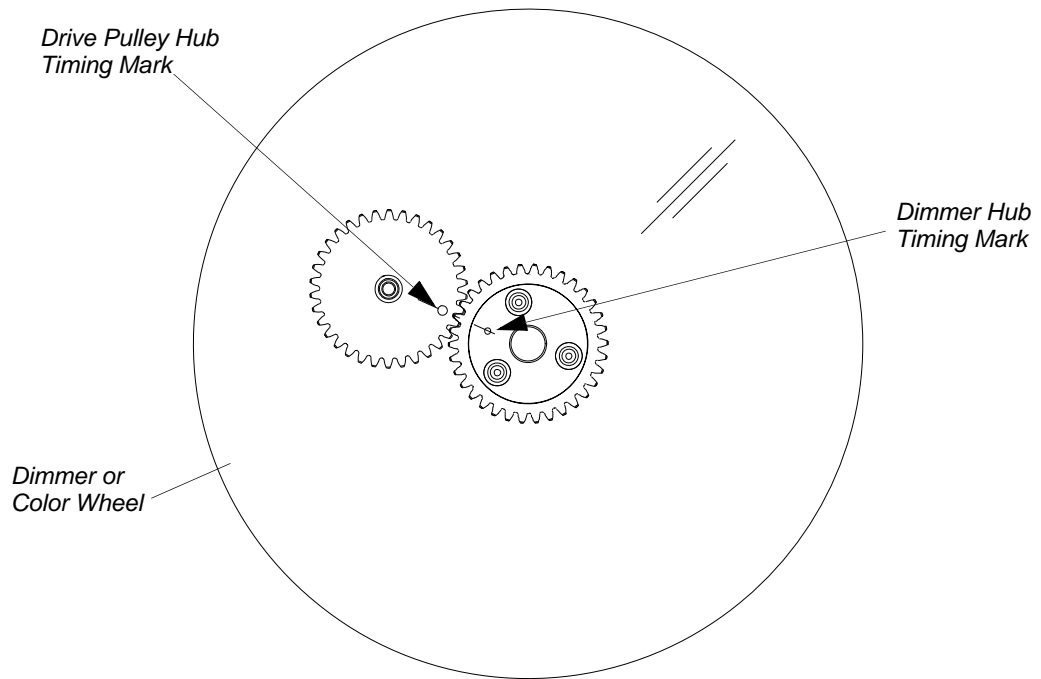

Figure 2-32: Wheel and Drive Hub Timing Marks
- Step 2. Align timing mark on dimmer wheel with timing mark on drive pulley hub on motor shaft as shown in Figure 2-32.
- Step 3. Align the timing mark on the magenta wheel with the timing mark on the drive pulley hub on motor shaft as shown in Figure 2-32.